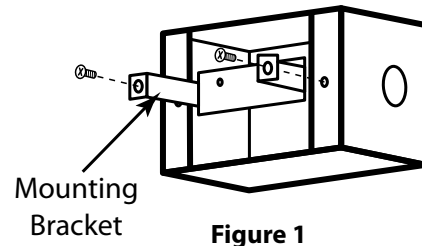

Figure 1
2. Attach mounting bracket to box using two supplied 8-32 Philips #2 screws. See figure 1.